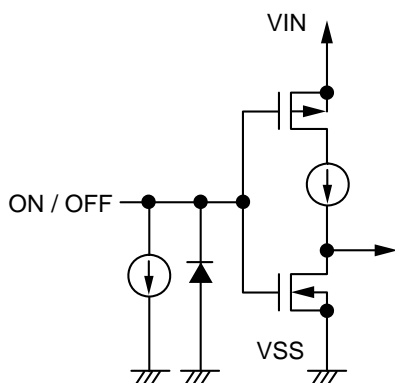

Figure 24 S-13D1 Series A / B / C Type
When the ON / OFF pin is set to OFF level, the entire internal circuit stops operating, and the built-in P-channel MOS FET output transistor between the VIN pin and the VOUT pin is turned off, reducing current consumption significantly. Note that the current consumption increases when a voltage of 0.3 V to $V_{IN} - 0.3$ V is applied to the ON / OFF pin. The ON / OFF pin is configured as shown in **Figure 24** and **Figure 25**.
*1. Note that the IC's current consumption increases as much as current flows into the constant current of 0.3 μ A typ. when the ON / OFF pin is connected to VIN pin and the S-13D1 Series A / B / C type is operating (refer to **Figure 24**).